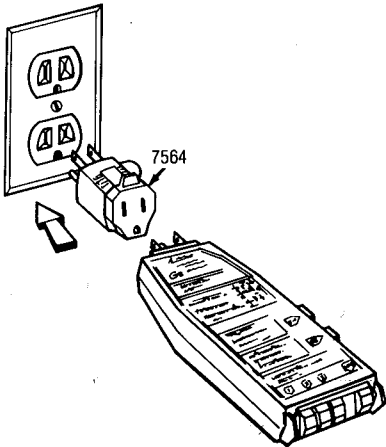

Figure 40
Step 1. Plug the instrument into the 7564 Probe (with NEMA adaptor, if required) (Fig. 40).